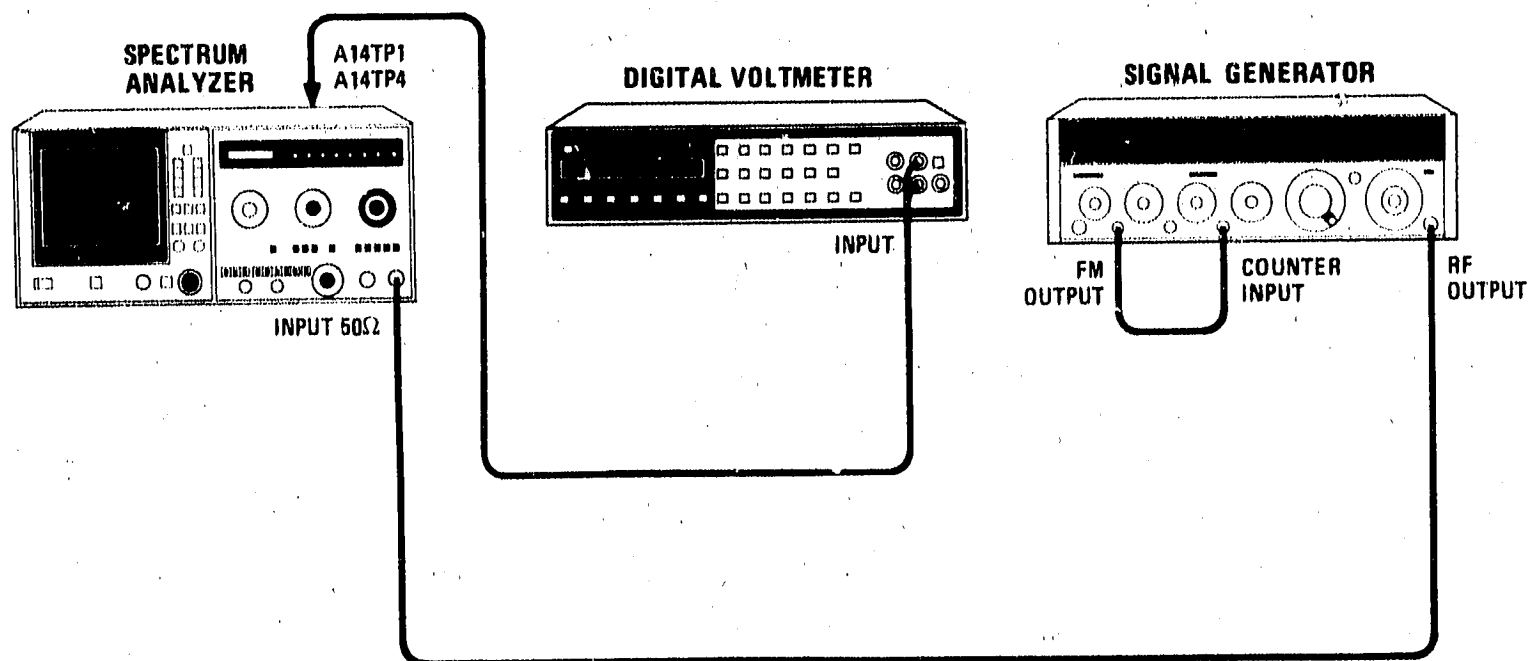

Figure 5-42. Tuning Stabilizer Control Adjustment Test Setup
2. Reconnect power cord, set LINE switch ON, and connect equipment as shown in Figure 5-42 with signal generator RF switch off.